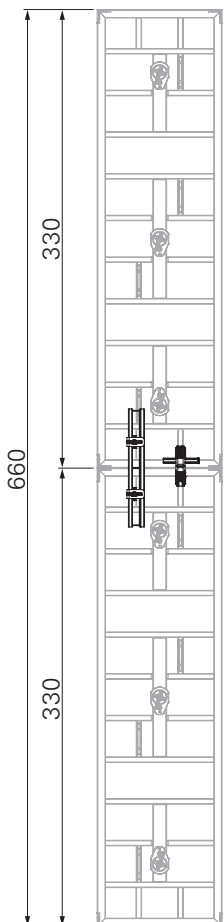
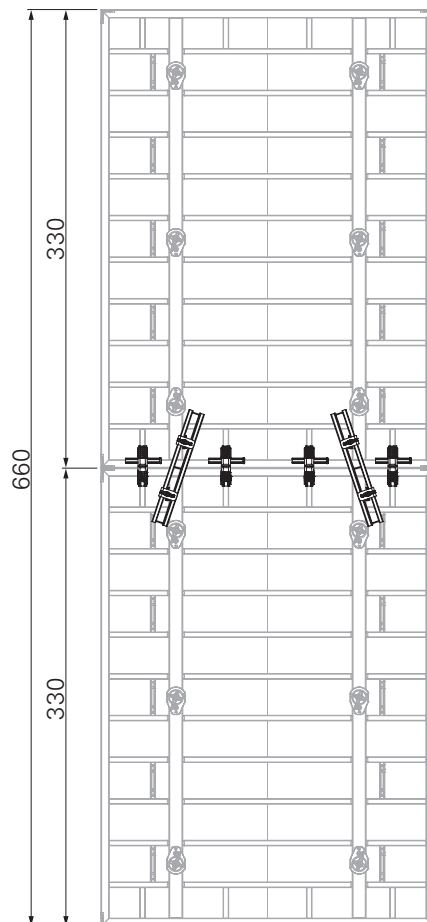
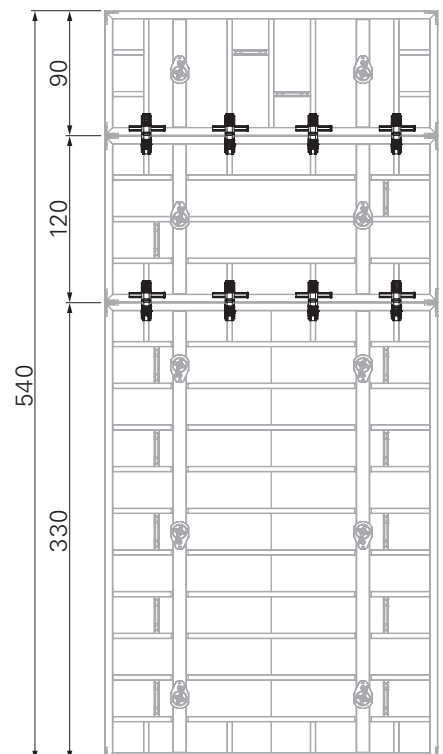

Fig. D10.01a
Fig. D10.01b
Fig. D10.01c
- For extension units with a height of $5.40 \text{ m} < H \leq 6.60 \text{ m}$, fit Alignment Couplers BFD (28) and Compensation Walers-4 MAR 85 (33) at the panel joints.
- Examples: (Fig. D10.01a + Fig. D10.01b)
- For extension units with height $H \leq 5.40 \text{ m}$, Alignment Couplers BFD (28) are to be used on panel joints.
- Examples: (Fig. D10.01c)
- If a Panel MX-2 $H = 30$ cm is added horizontally, the tie can be dispensed with for this panel. The unused tie point must be sealed with a Plug MXM15 $\text{Ø}18.3\text{mm}$ (71).